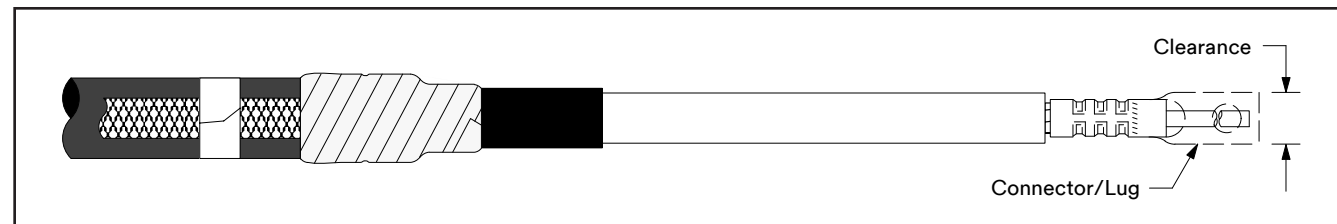

Figure 15
9.1 Check to insure 3M Cold Shrink QT-III Silicone Rubber Termination assembly fits over the selected lug or connector BEFORE installing the lug or connector. If lug or connector (Figure 15) will not fit through the termination core, clean the insulation (per Step 10.0) and slide termination on cable before installing lug. **DO NOT REMOVE CORE AT THIS TIME.**